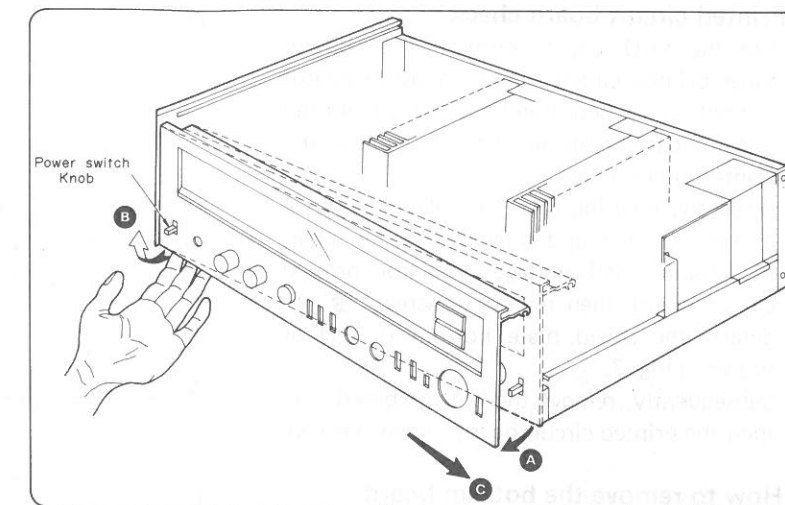

Fig. 3
6. Move the front panel in the direction of the arrow A in Fig. 3. Next, holding the left bottom of the front panel, move it in the direction of the arrow B until the power switch knob is disengaged from the hole of the front panel, and then remove the front panel. (arrow C)